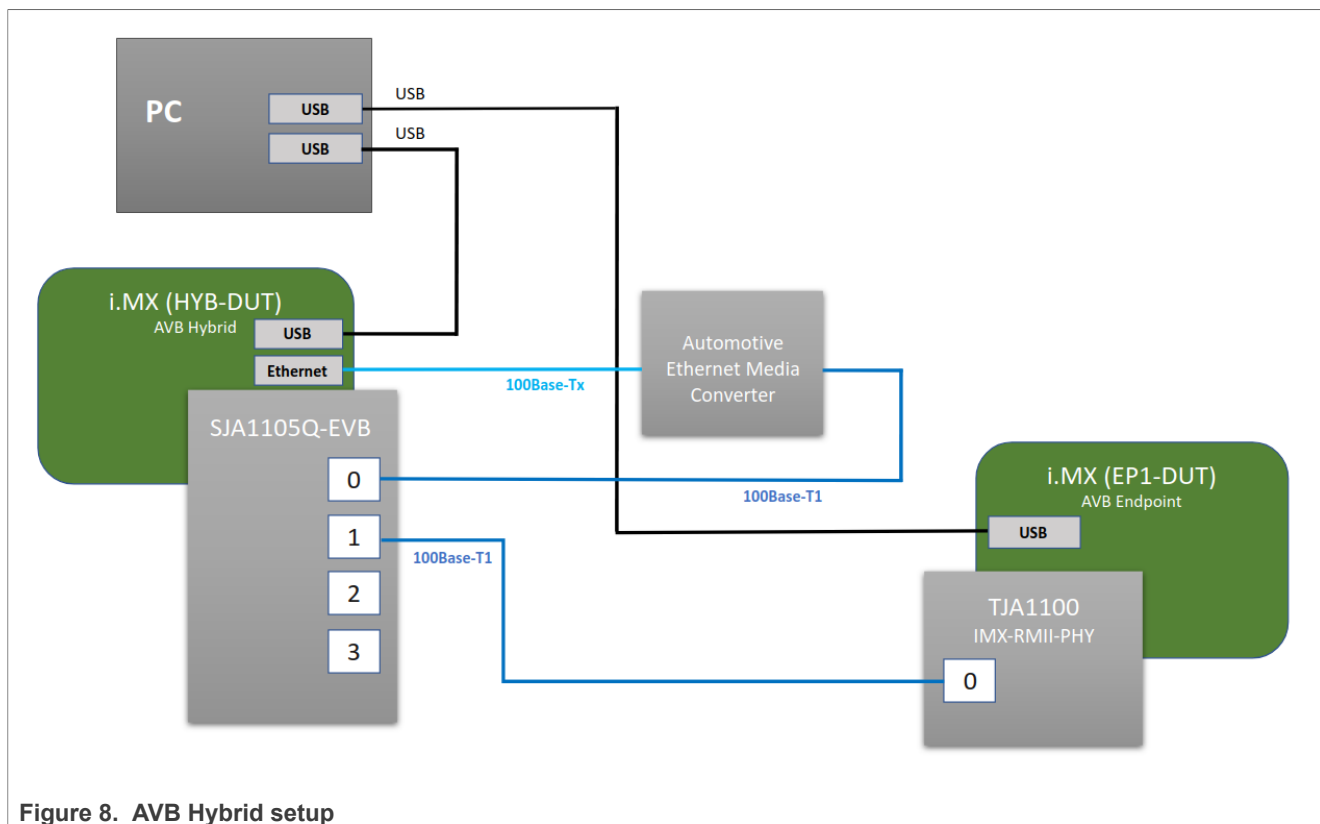

Figure 8. AVB Hybrid setup
1. Connect the ENET1 interface of the board to one of the SJA1105Q-EVB external ports through an Ethernet to BoardR-reach media converter. See Figure 8. The 8 Ω speakers can be connected to the i.MX 93 14x14 EVK connectors J22 and J23.